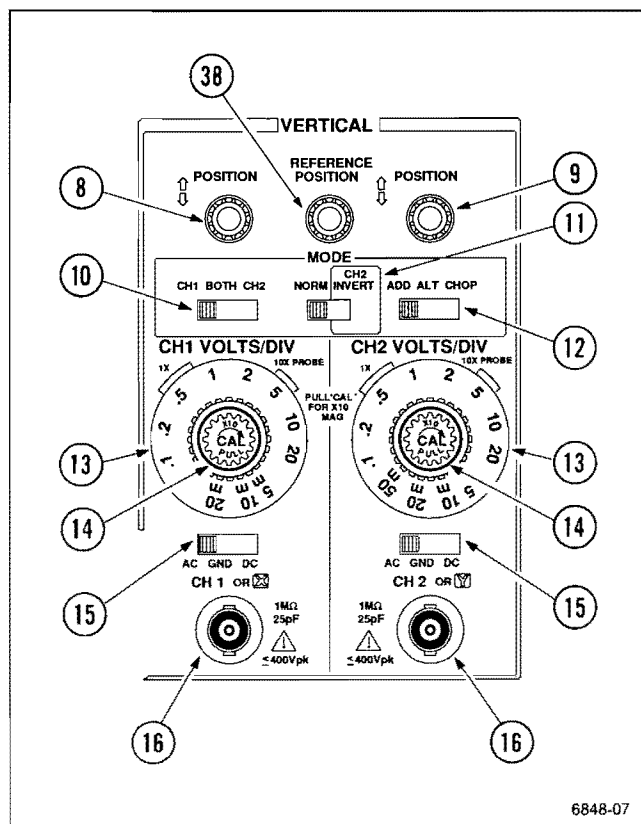

Figure 2-4. Vertical controls and connectors.
See Figure 2-4 for the location of items 8 through 16.
- ⑧ **Channel 1 Vertical POSITION Control**—Controls the vertical display position of the CH 1 signal. This control does not function in the NON-STORE, X-Y mode.
- ⑨ **Channel 2 Vertical POSITION Control**—Controls the vertical display position of the CH 2 signal. This control also positions the NON-STORE, X-Y mode display vertically.